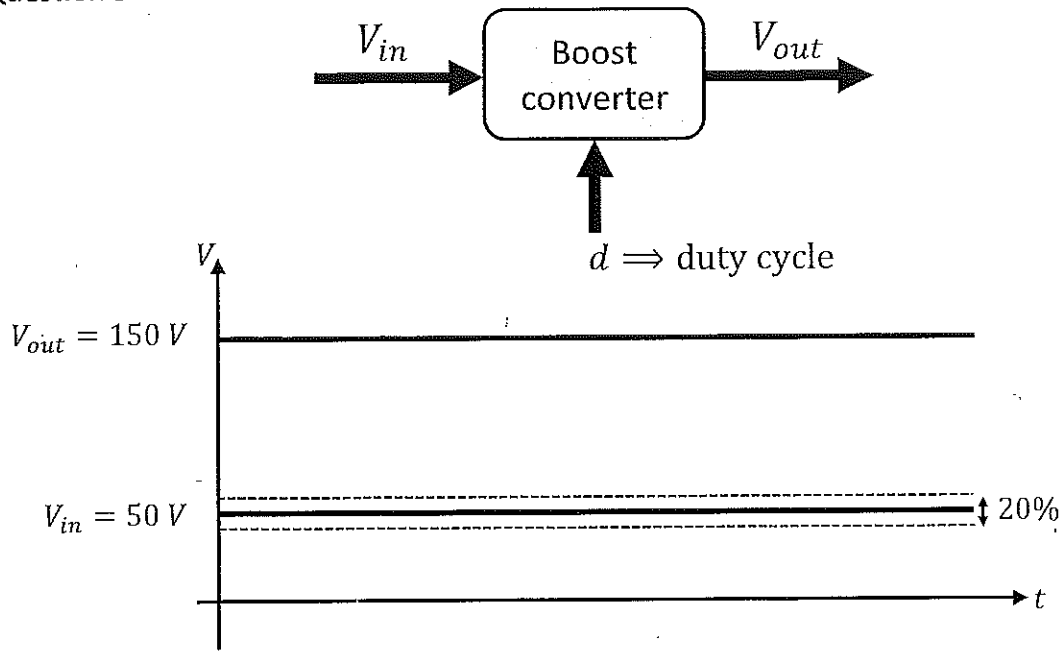

Figure Q5: Boost converter with a regulated output voltage
As shown in figure Q5 a boost converter operates on the Continuous Conduction Mode (CCM) with a input voltage of 50 V, output voltage of 150 V, switching frequency of 50 kHz, inductance of 1 mH, load resistance of 20  $\Omega$  and capacitor of 4000  $\mu F$ . Determine the following if the goal is to keep the output voltage regulated at 150 V:
- the duty cycle range if the input voltage fluctuates 20% around 50 V (as shown in figure Q5) and